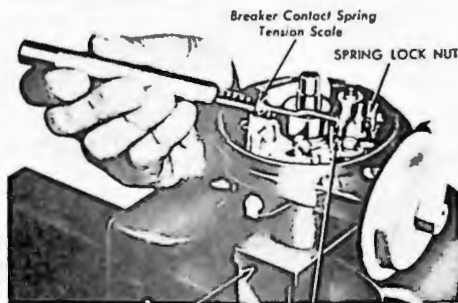

Figure 20—Checking Breaker Arm Spring Tension
(1) **CHECKING TENSION.** Place the tension gauge (fig. 20) as near to the breaker contact as possible and push at right angle (90°) until the contacts just open. Read the spring tension and adjust if outside specifications.